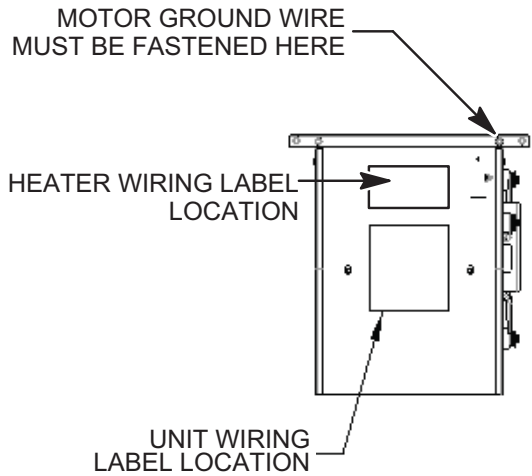

Fig. 2 – Motor Ground and Wire Label Location
16. Connect all motor leads or motor plugs and grounding wire if applicable. (See Fig. 2 for ground wire location)
17. Install the two new wiring labels (unit and heater) see location shown in Fig. 2. To identify the correct labels